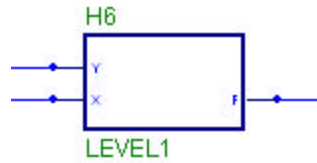
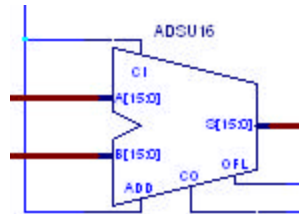

Figure 23
Figure 24
19. Beware of disconnected nets! Disconnected single nets will usually have blue dots, but not always. Disconnected busses will never have blue dots even if they are disconnected. Move components around to make sure the connected nets move with them. The components in both Figures 23 and 24 are disconnected, although you can not tell this from visual inspection of Figure 24. Disconnected nets often occur when you replace one macro with another. The Replace Symbol command (right-click on the component, then choose Replace Symbol) is less likely to lead to disconnected nets than other methods of replacing symbols, but only if the symbol interface of the new macro is the same as that of the old one.